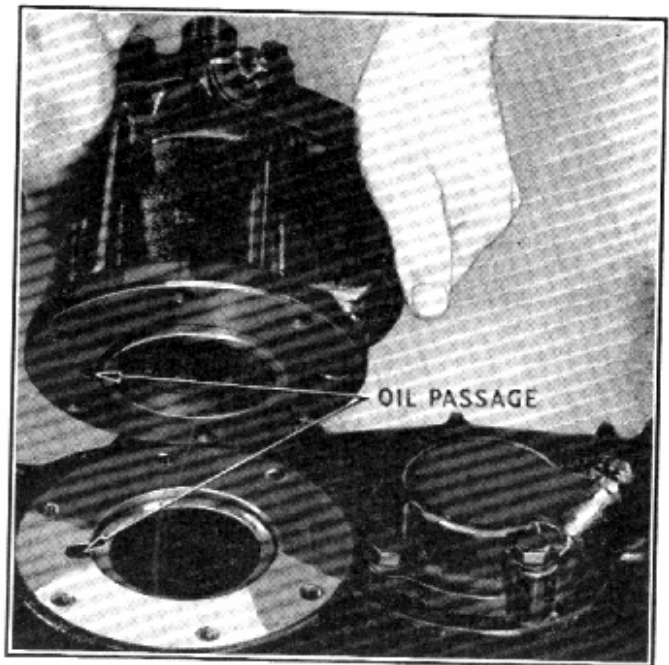

Fig. 35—When Installing Declutching Carrier and Gasket Be Sure That Oil Passage is Not Obstructed
1. Install the front axle declutching carrier assembly to the case using a new gasket (55) between the carrier and the case. Be sure that the oil passage hole at the bottom of the case lines up with the hole in the carrier, also that the gasket does not obstruct the oil passage in either the carrier or the case, (see Fig. 35).
3. Install the cover (23) the gasket (24) and the two dowel pins to align the cover with the case. Install the cover retaining cap screws and tighten as outlined previously.
4. Install the rear brake flange and bearing cap (51) using a new gasket (53) and the same shim pack thickness that was removed at disassembly. Install the universal joint flange